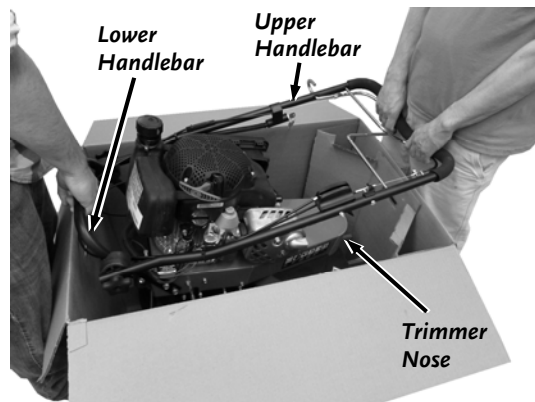

Figure 6
5. With help from another person, lift the Trimmer from the Shipping Box (**Figure 6**).